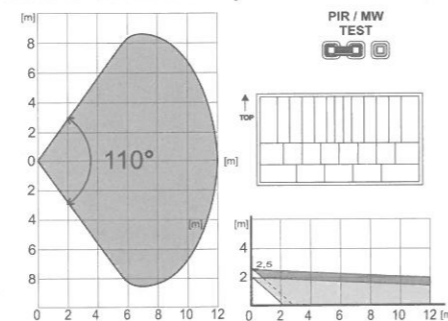

Fig 2: Coverage characteristics can be changed by using an alternative lens:
The PIR detector is equipped with a 110°/12m lens. Coverage – see Fig 2. Check the coverage with the jumper (8) in the **"PIR"** position. Movement is indicated by a red LED.